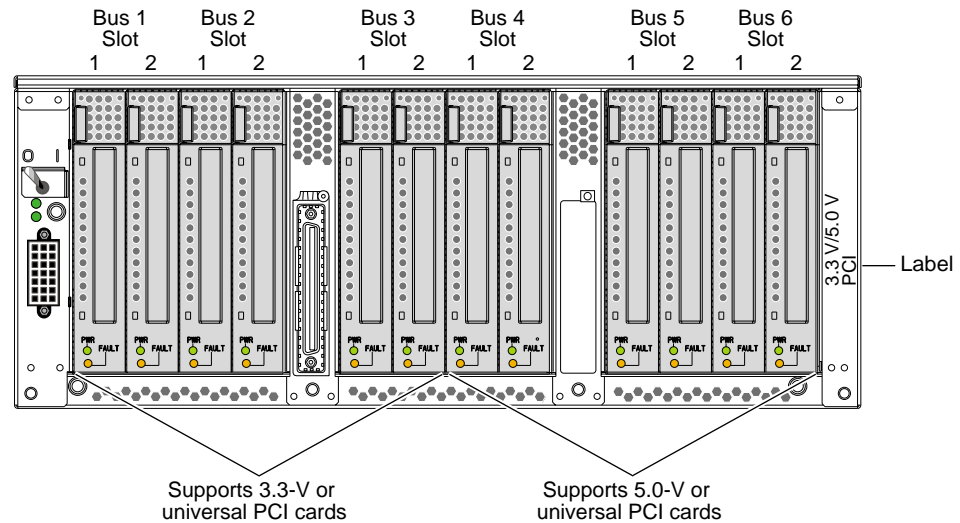

Figure 3-1 PCI Slots of PCI Expansion Module with 5.0-V Support
- A **PCI expansion module with 5.0-V support** can seat up to six 5.0-V or universal PCI cards and up to six 3.3-V or universal PCI cards. Buses 1, 2, and 3 support 3.3-V PCI cards and buses 4, 5, and 6 support 5.0-V PCI cards (see Figure 3-1).